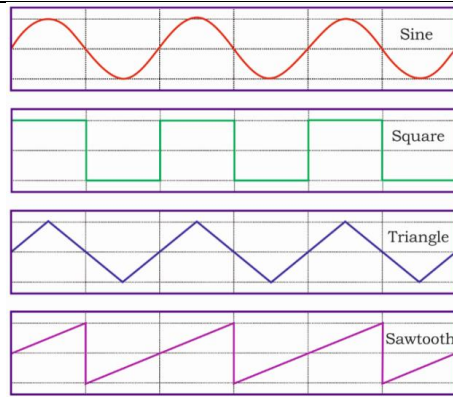

Fig. 1.40 Various waveform
The main difference between AC and DC is the directionality in the flow of electrons. In alternating current (AC), the movement of electric charge periodically reverses direction. In direct current (DC), the flow of electric charge is only in one direction. The usual waveform which is generated by the AC generator is sinusoidal in nature i.e. sine wave. In certain applications, different waveforms are used, such as triangular or square waves. Waveforms of various shapes are shown in Figure 1.40.